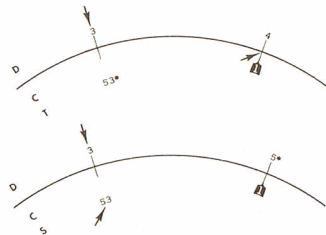

Figure 26
**Example:**  $3 + j4 = 5 \angle 53^\circ$  \* (Figure 26)